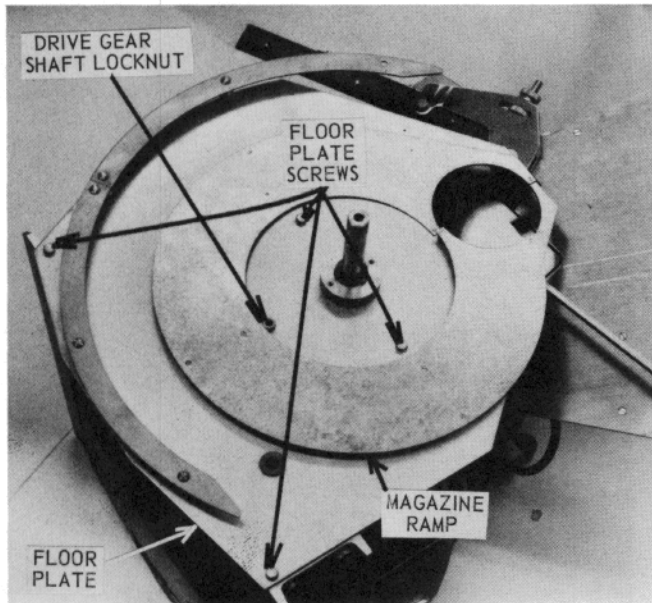
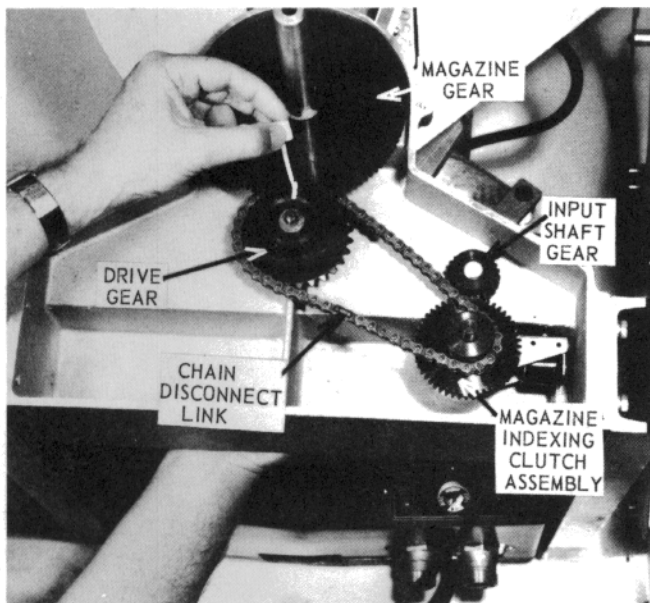
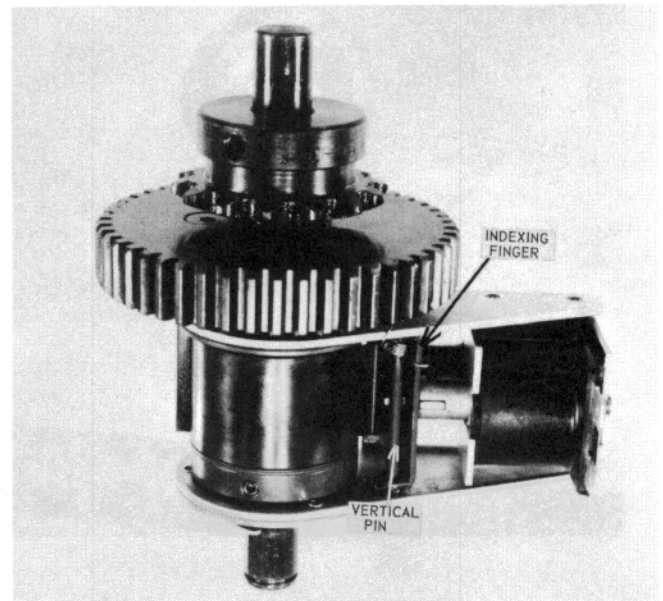

Figure 86 — Magazine Ramp, Floor Plate, Floor Plate Screws, and Magazine Drive Gear
Figure 87 — Match Marking Magazine Gear and Magazine Drive Gear
Figure 88 — Magazine Indexing Clutch Assembly
- 7.1.3 Remove the four floor plate screws holding the magazine floor plate to the magazine gearbox (see Figure 86). The magazine drive gear shaft lock nut must be removed: however, the magazine drive gear shaft, which is held by this nut, must be held from below when the floor plate is removed to prevent the magazine drive gear from moving (see Figure 87). If the magazine drive gear moves without first being match marked with the magazine gear, incorrect timing will result.
- 7.1.4 Match mark the magazine gear with the magazine drive gear (see Figure 87).
- 7.1.6 The chain disconnect link is positioned for unsnapping by disengaging the magazine indexing clutch to allow free movement of the chain (see Figure 87). The magazine indexing clutch is disengaged by pressing on the end of the metal indexing finger and rotating it slightly on the vertical pin (see Figure 88). The chain may also be removed by removing the magazine drive gear and not disconnecting the chain link.